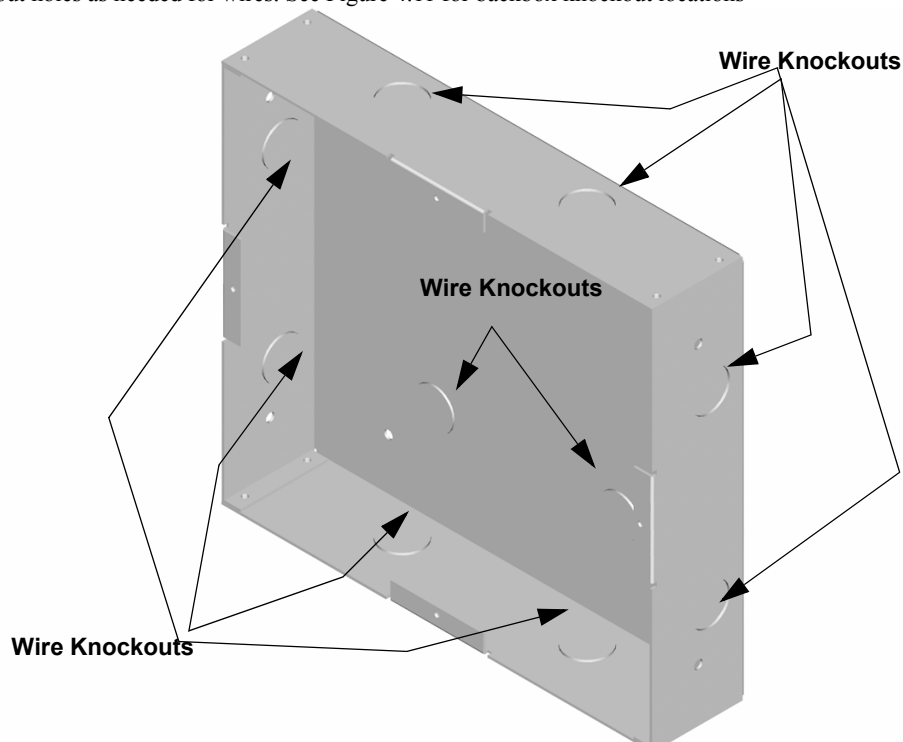

Figure 4.11 Back Box Knockout Locations
2. Remove knockout holes as needed for wires. See Figure 4.11 for backbox knockout locations
1. Remove the desired knock out. See Figure 4.11.
2. Remove knockout holes as needed for wires. See Figure 4.11 for backbox knockout locations.